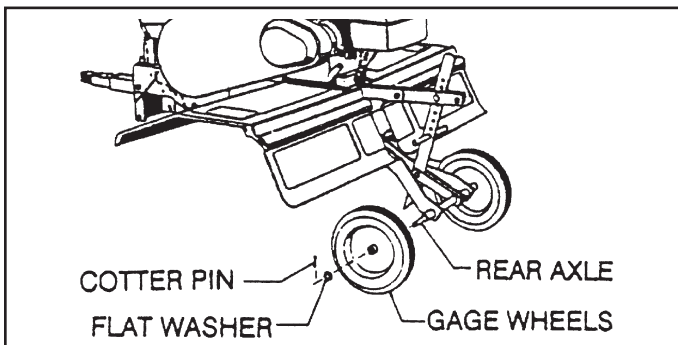

FIGURE 2
- Assemble gauge wheels onto rear axle with the extended end of the hub facing inward. Secure with the flat washers and cotter pins that were removed from the axle during unpacking. See figure 2.